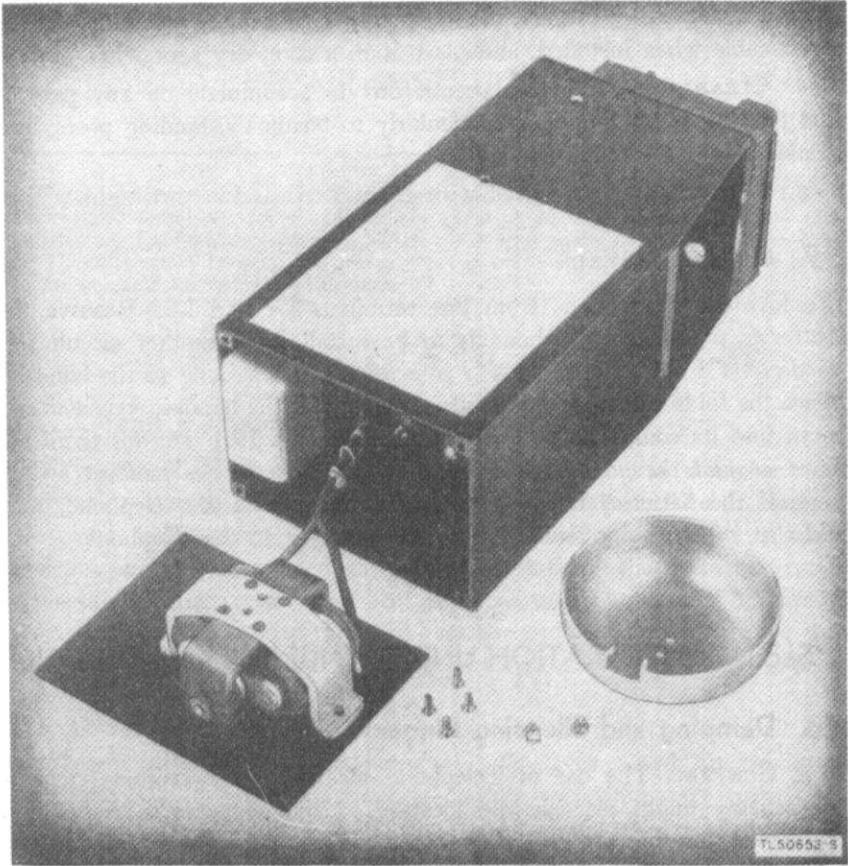

Figure 20. Telephone EE-8, gong removed from ringer assembly.
*b.* **DAMPING.** (1) *Removal of gong* (fig. 20). With the gong removed, the incoming ringing signal will be a dull vibrating sound. To remove the gong: